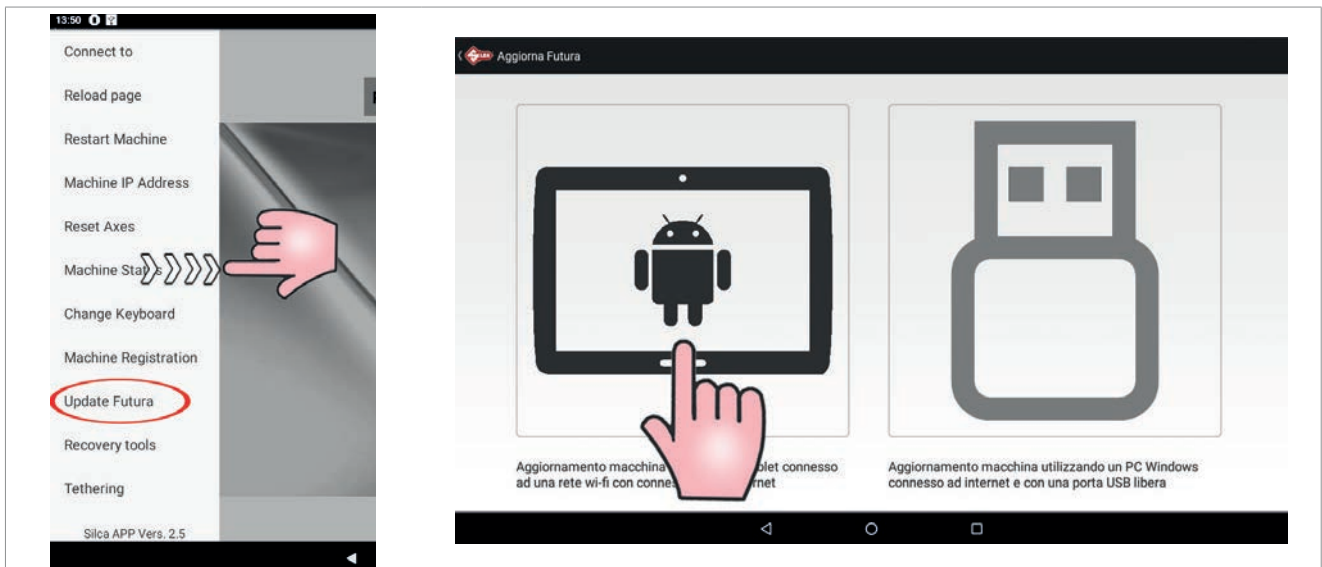

Fig. 19
- Click on the tablet image (Fig. 19) and follow the guided procedure (if the tablet is not connected to a Wi-Fi network you will see a screen from which a Wi-Fi network can be selected).